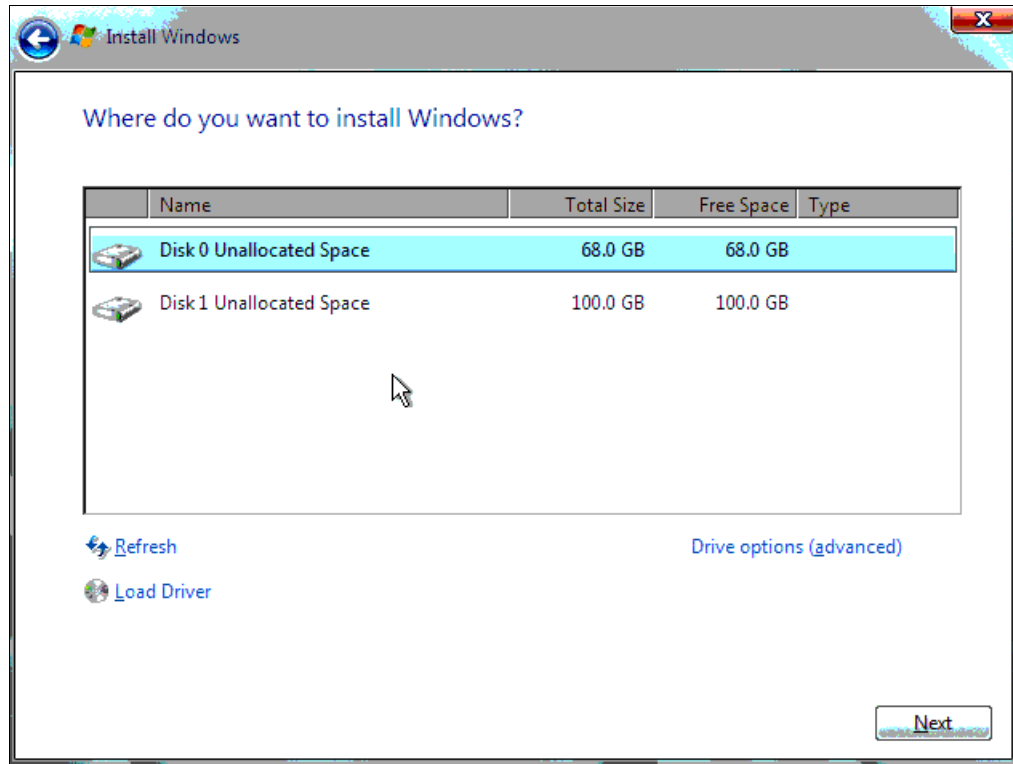

Figure 4-4 Selecting disk for Windows installation
8. On the “Where do you want to install Windows?” panel (Figure 4-4 on page 91), click the partition where you want to install Windows EBS. A system partition of at least 50 GB is suggested. In addition, perform the following tasks, if necessary: